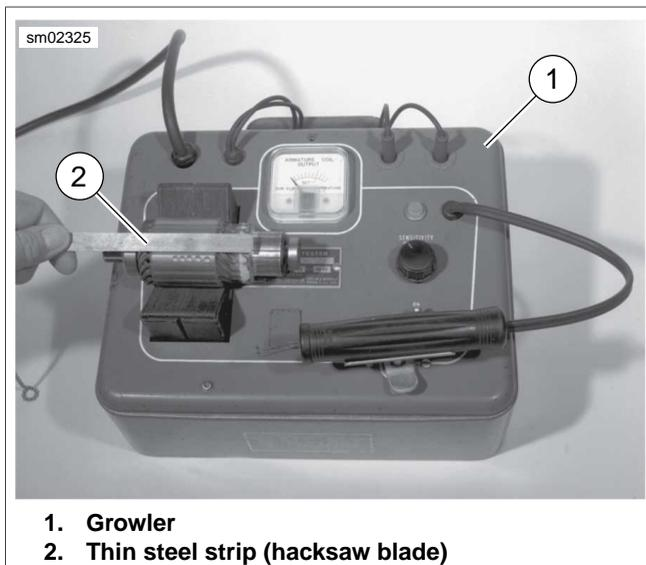
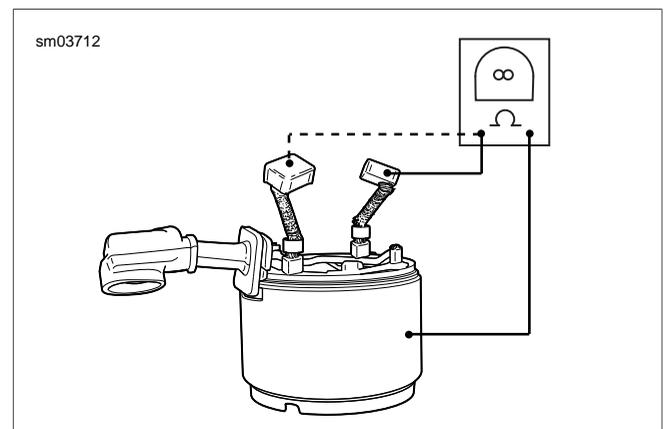

Figure 5-3. Shorted Armature Test Using Growler
Figure 5-6. Grounded Field Test
4. See Figure 5-3. Check for a SHORTED ARMATURE.
- a. Place armature on growler (1).
- b. Hold a thin steel strip (2) (hacksaw blade), against the armature core and slowly turn armature.
5. See Figure 5-6. Check for a GROUNDED ARMATURE with an ohmmeter or continuity tester.
3. See Figure 5-6. Check for a GROUNDED FIELD COIL WINDING with an ohmmeter or continuity tester.